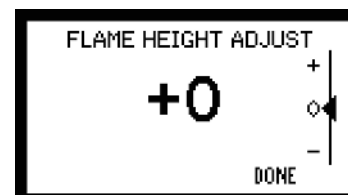

Figure 9.3
- Adjust the flame height using the “FLAME HEIGHT ADJUST” screen on the wall control. **Figure 9.3.**